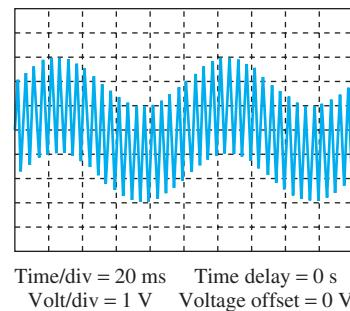

FIGURE P14.22 Oscilloscope screen for Problem 14.22.
- 14.22** (H) The summation of two sine waves is shown on the oscilloscope screen (Figure P14.22). Find the frequency and RMS amplitude of the two sine waves. If you apply the signal to a spectrum analyzer, how much power will you get at each frequency?